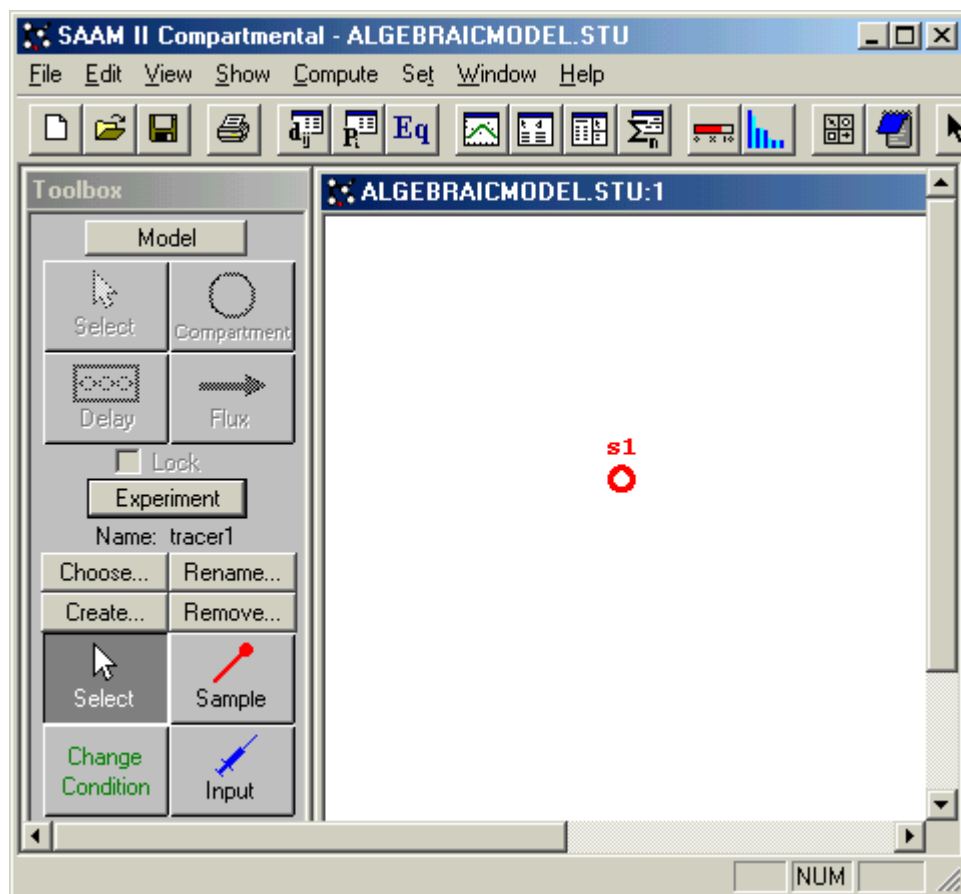

Figure 1
4. A sample object is the link between the function that will be defined and the data to which it will be fitted. To create a sample, click on the **Sample** tool in the **Toolbox**, and then click anywhere in the main model (white) window. The sample should appear as a red circle labeled **s1** as shown in Figure 1.